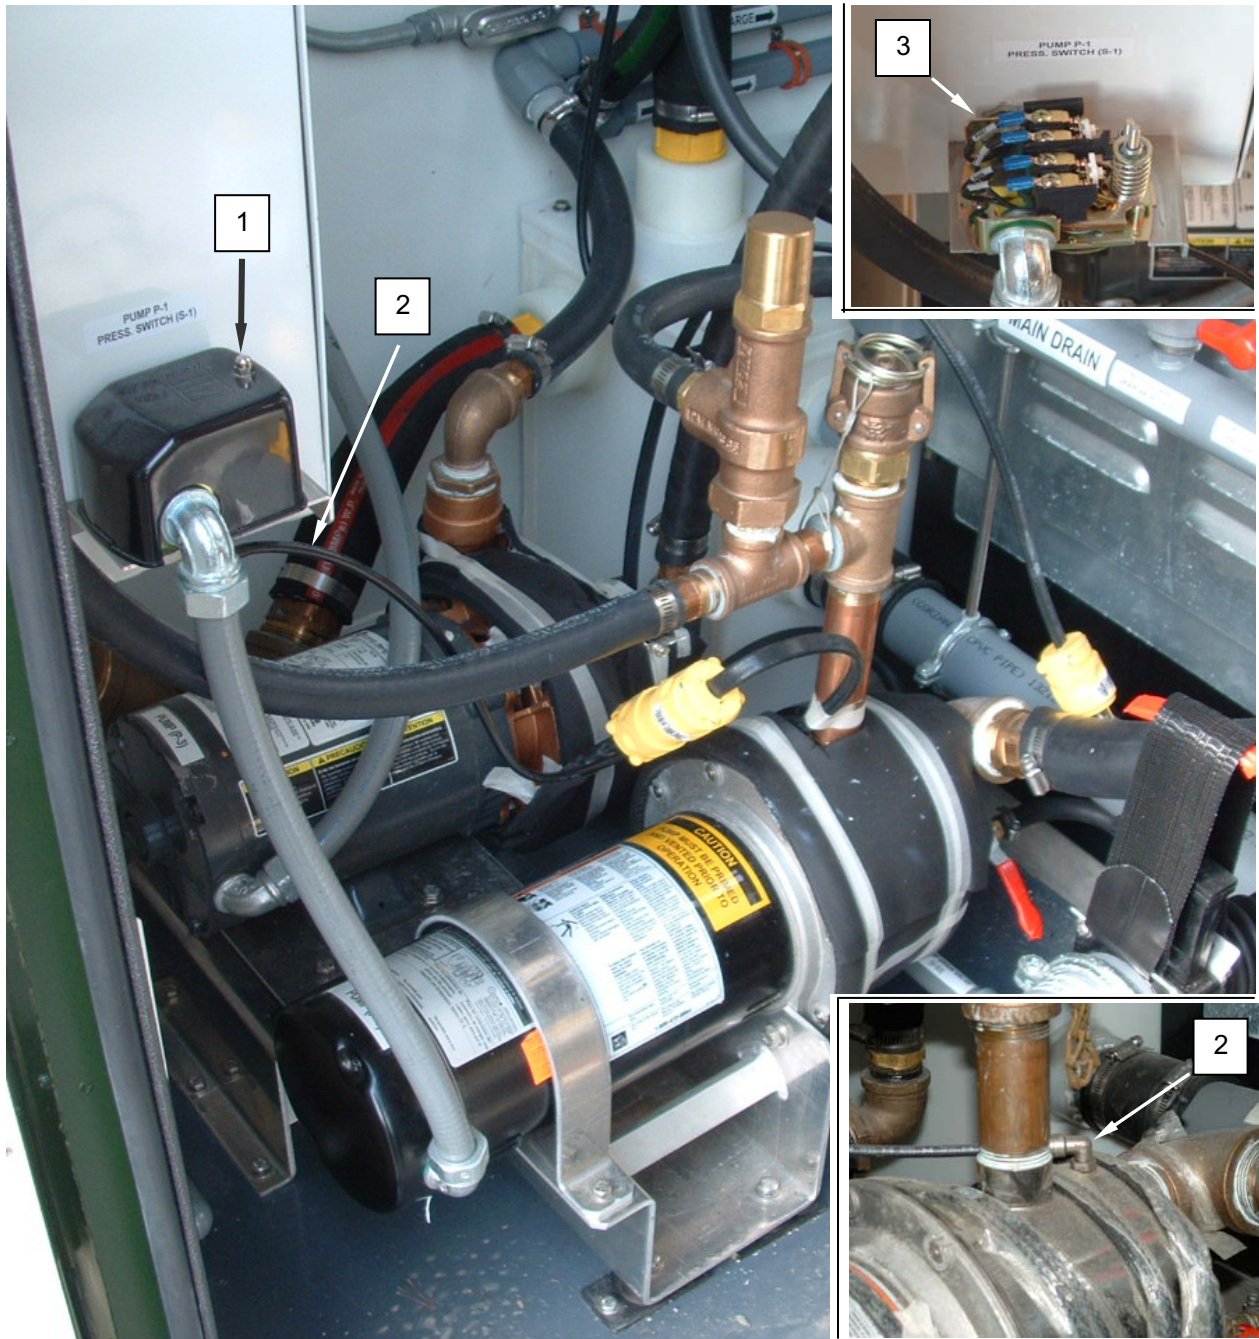

Figure 1. Replace the Pressure Switch.
2. Loosen nut retaining pressure switch cover (**Figure 1, Item 1**) and remove cover.
3. Remove pressure line connection (**Figure 1, Item 2**) from pump.
4. Tag and disconnect wiring from pressure switch (**Figure 1, Item 3**).
5. Loosen and remove both conduit locknuts from switch (**Figure 1, Item 3**).
6. Remove switch (**Figure 1, Item 3**) from conduits.
7. Install replacement switch (**Figure 1, Item 3**) onto conduits and retain with locknuts.
8. Connect wiring to replacement switch (**Figure 1, Item 3**) as tagged.
9. Connect replacement switch pressure line connection (**Figure 1, Item 2**) to pump.
10. Install cover (**Figure 1, Item 1**) and retain with nut.